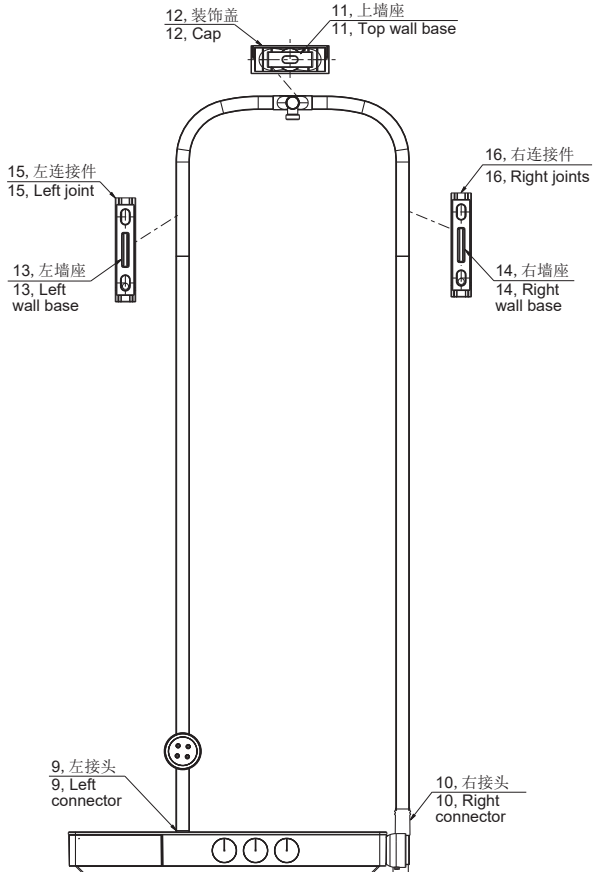
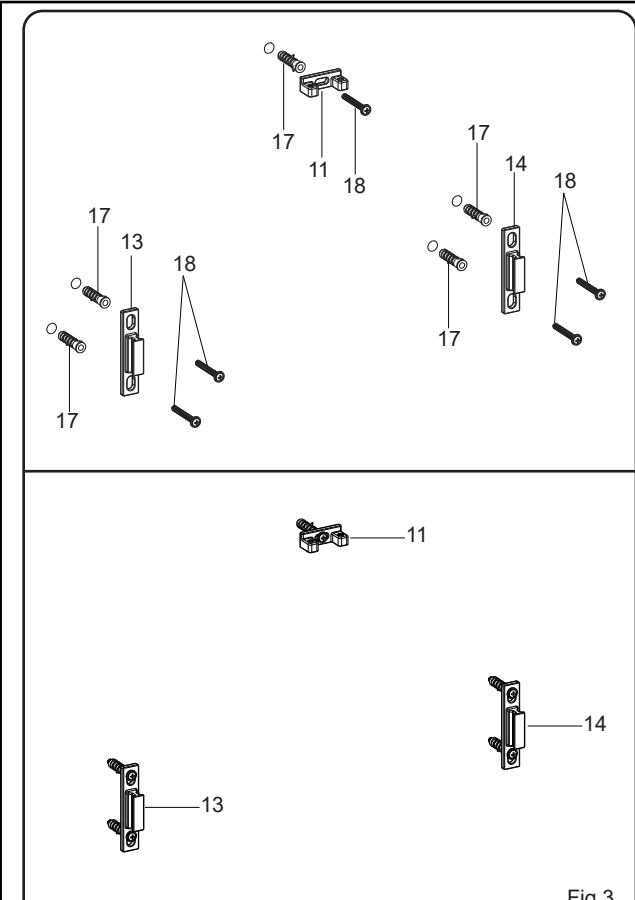

Fig.2
Fig.3
2. As Fig.2 shown, insert the whole shower column onto the left and right connectors(9, 10) of the body, and then mark the location and dimensions of the wall bases with a pencil.
A. The hole center point of the top wall base(11) is located at the cap(12) center.
2. As Fig.3 shown, insert the anchors(17) into the holes. Tighten the screws(18) with a screwdriver(not provided) in order to secure the wall bases(11, 13, 14).